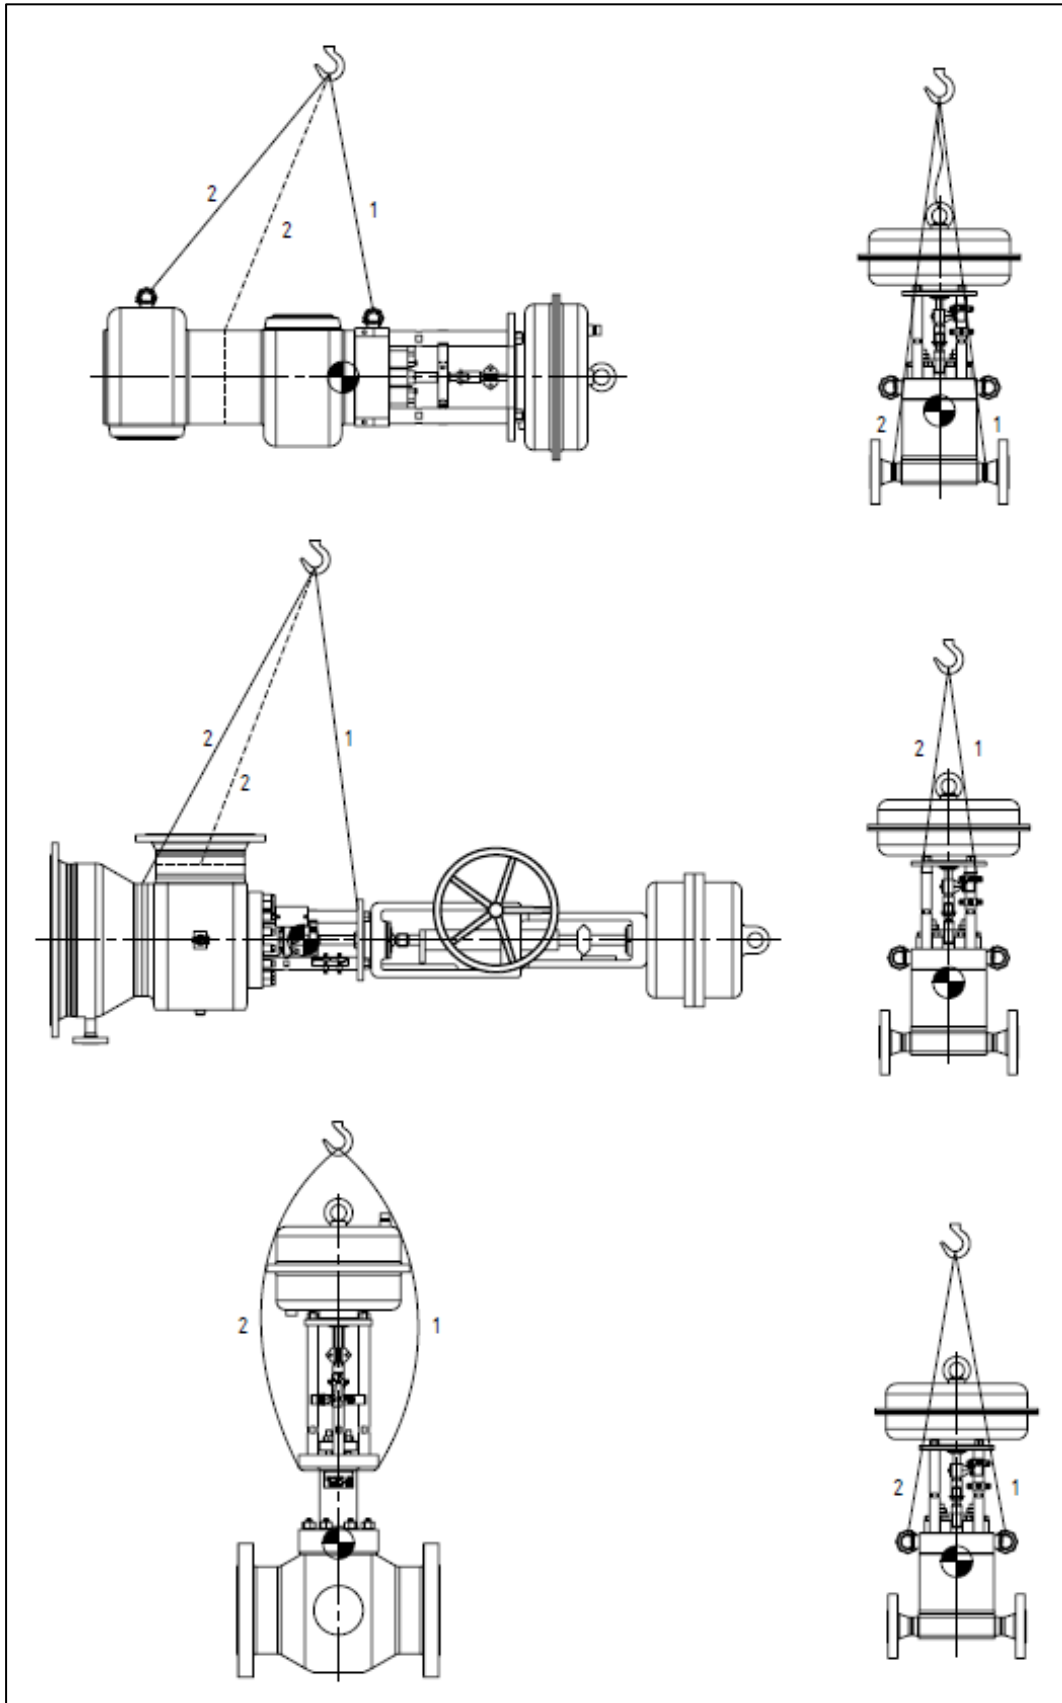

Figure 1 Typical representation of the handling options when installing the valve Dashed lines show alternative fastening possibilities.
1. Suspend the valve, but do not lift; see Figure 1.